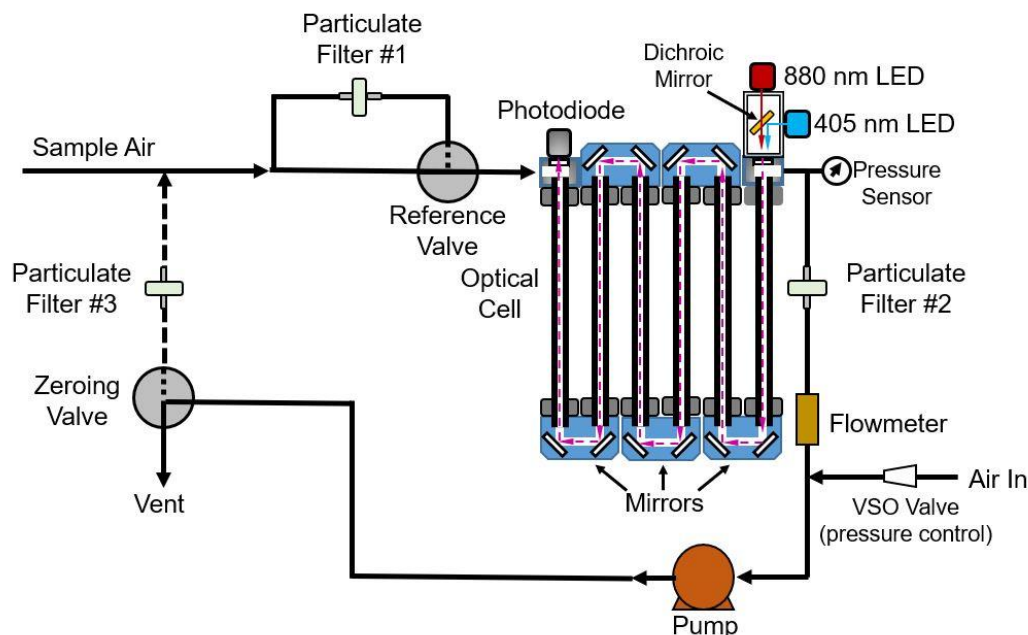

Figure 1.1. Schematic Diagram of the 2B Technologies Black Carbon Photometer.
Figure 1.1 is a simplified schematic diagram of the Black Carbon Photometer.
Sample air is continuously drawn through the instrument by the Air Pump at a flow rate of ~1.0-1.5 L/min. The Reference Valve alternately sends the sample air through a PTFE particulate filter (labeled Particulate Filter #1 in Figure 1.1) to remove all particulates or pass directly into the Optical Cell. Particulate-scrubbed or unscrubbed air passes through the Optical Cell and through the Cell Flowmeter. Alternate switching of the Reference Valve once every 10 seconds allows the measurement of a light intensity in the absence (I_o) of particulates and presence (I) of particulates. The Beer-Lambert Law is then used to calculate the particulate extinction (B_{ext}) from I and I_o :
The offset may drift on time scales of hours to days due to temperature change or chemical contamination of the absorption cell. It is recommended to periodically zero the instrument during use by sampling particulate-free air. The Black Carbon Photometer is equipped with an automatic zeroing valve that directs the effluent of the analyzer pump through Particulate Filter #3 (Figure 1.1) to the instrument inlet – providing a source of particle-free air for this purpose. Furthermore, it is also recommended to operate the instrument with an appropriate user-supplied particulate cut-off filter (typically a cyclone impactor) on the inlet line. Recommended total particulate and cut-off filters and their suppliers are given Section 12.